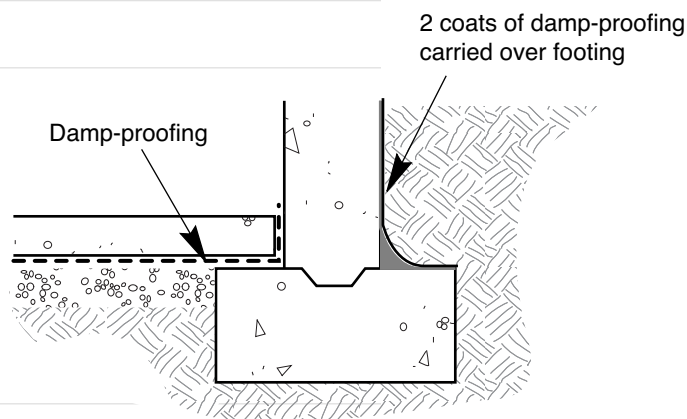

FIGURE 27
- ◆ Spray or roll on two coats of damp-proofing at right angles to grade level on the exterior. The damp-proofing should be carried over the top of the footing. Ensure that the final coat of damp-proofing is firm before you backfill (see Figure 27).